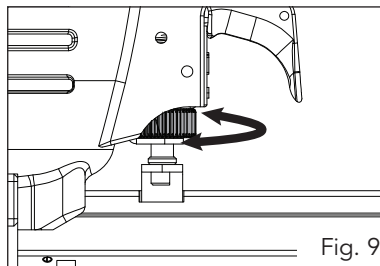

Fig. 9.
The driving depth of the fastener may be adjusted. The depth of drive is made by rotating the Depth adjustment selector (3) (fig. 9).
- If the fastener is driven into the workpiece at an excessive depth (the fastener head is driven below the work surface), the depth adjustment selector (3) should be rotated clockwise.
- If the fastener is protruding (the head is not flush with the surface), the depth adjustment selector (3) should be rotated anti-clockwise.